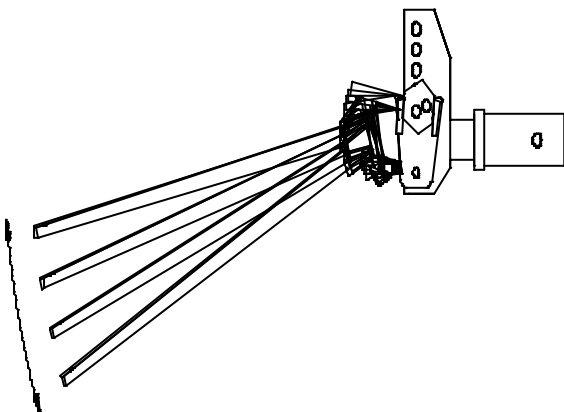

Figure 7
- The new Cam Lock mechanism insures setting the Spring Bars to the correct ground clearance can be achieved within seconds. (Figure 7)